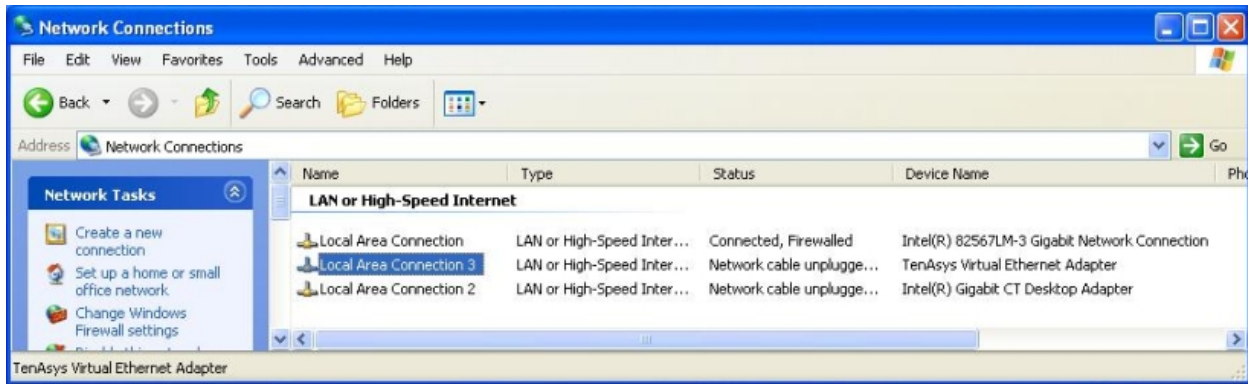

Figure G. 2 - Network Connections
2. The *Network Connection* dialog will open; and if you browse the connections displayed, you will see the *TenAsys Virtual Ethernet Adapter* (in this example it is *Local Area Connection 3*), Figure G. 2. Double-click on that local area connection.